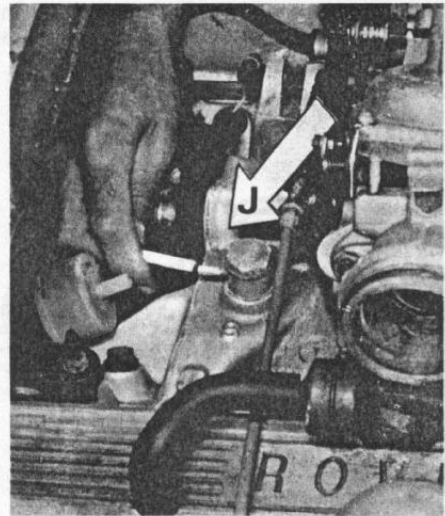

FIG. 63
- Next, disconnect the transmission differential lock control valve vacuum pipe "J", at the manifold which communicate with No. 8 cylinder and again the right hand carburettor. Any air leaking into either of these connections will effect the mixture settings of the right hand carburettor, the CO levels and colour of the spark plugs on 2-3-5 & 8 cylinders. Seal the Diff Lock connection at the manifold as seen in Fig. 63.